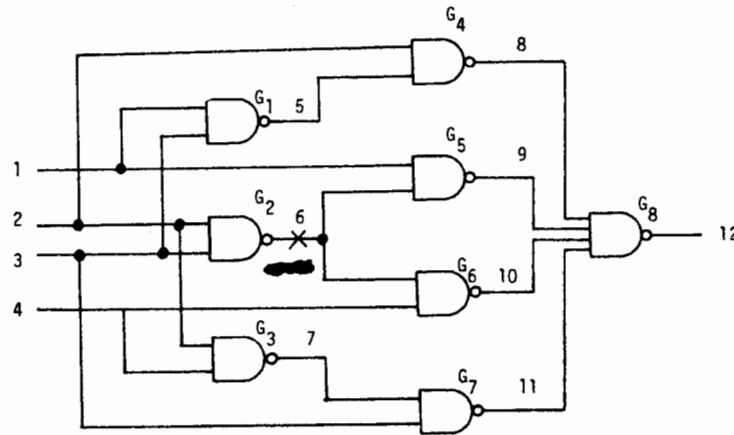

Fig. 2.
3. In Fig. 2, you have to use FAN to generate a test pattern for line 1 stuck-at 0. Your FAN cannot have any backtracking. You must use all features of FAN to show the power of this ATPG method. To help me grade your answer, you must present your solution step by step. For example: